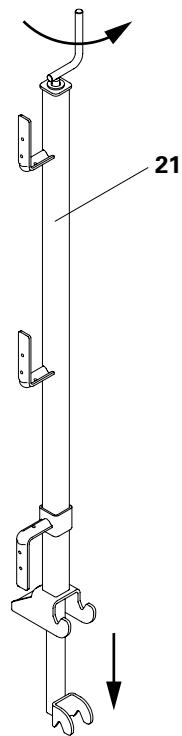

Fig. A7.04
1. Pre-adjust Guardrail Post GKB (21) with the crank.
2. Place the Guradrail Post GKB (21) in the reinforcement stirrup and tension with the crank.
3. Position Guardrail Boards (22) and secure, e.g. by means of wire pins or wood screws. (Fig. A7.04 + A7.05)